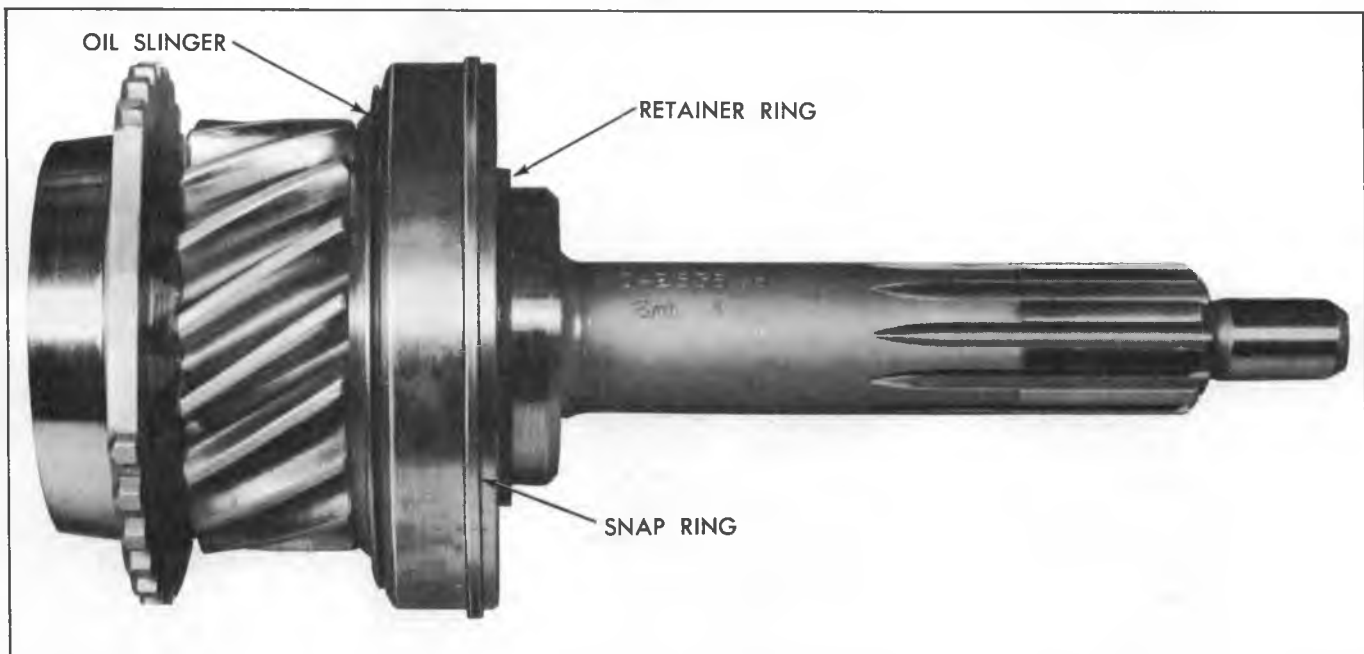

Fig. 8Q-Clutch Gear Assembly
## Clutch Gear and Shaft (Fig. 8Q)
1. Press bearing and new oil slinger onto clutch gear shaft using Tool J-22872 (fig. 11Q). Slinger should be located flush with bearing shoulder on clutch gear. See Figure 8Q for direction of slinger installation.